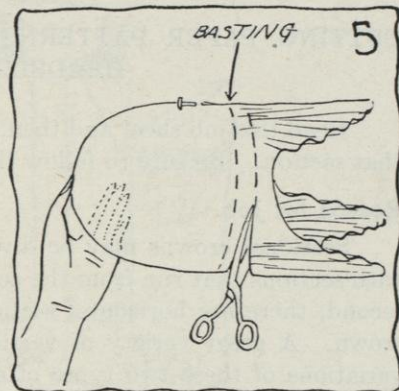

FIG. 5.
- (1) Cut the crinoline off on the penciled line that you drew on the headsize (see Figure 5).